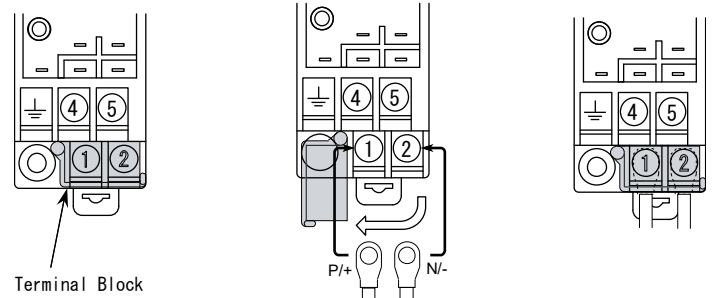

Fig. 1 Terminal Block Cover
(1) Loosen the terminal screw.
(2) Insert the tip of a screwdriver bit beneath the washer and push it up to make ample room to receive a cable.
The terminals for power supply connection (① and ②) are covered with a plastic plate for safety (see Fig. 1). Open the cover plate and connect the power lines to the terminals (see Fig. 2). Return the cover plate to its original position (see Fig. 3).